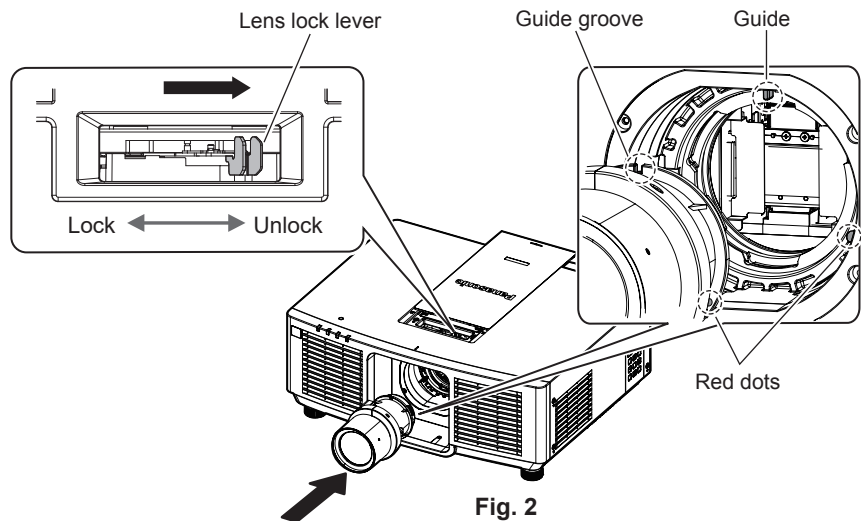
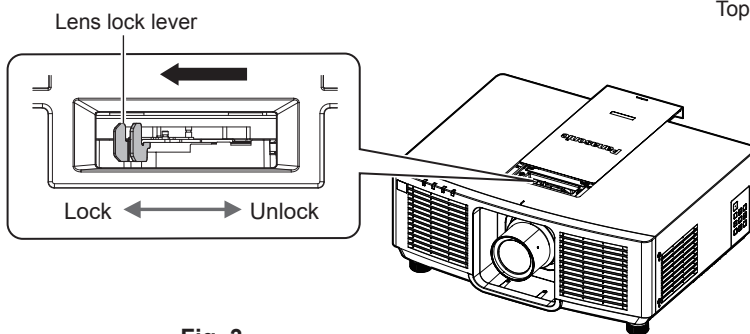

Fig. 2
Fig. 3
- 2) **While holding the projection lens, pinch the lens lock lever and turn to the UNLOCK side. (Fig. 2)**
- 3) **Take out the projection lens straight. (Fig. 2)**
- 2) **Confirm that the lens lock lever is positioned at the UNLOCK side. (Fig. 2)**
- If the lens lock lever is at the LOCK side (Fig. 3), pinch the lens lock lever and turn to the UNLOCK side. (Fig. 2)
- 3) **Align the mark (red dot) on the projection lens with the mark (red dot) on the projector, and insert the projection lens all the way in. (Fig. 2)**
- 4) **While holding the projection lens, turn the lock lever fully to the LOCK side. (Fig. 3)**